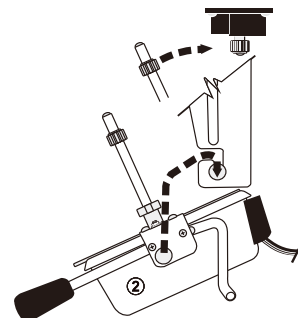

Fig 1
1. Rotation type kettle (Fig 1):